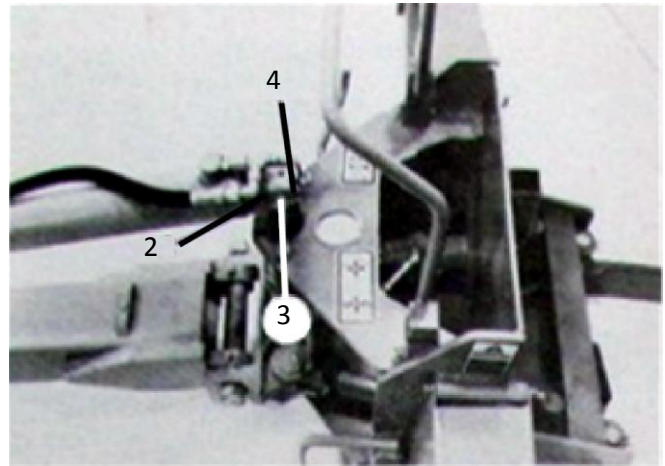

Fig. 3
(2) Mount the base end of the main boom cylinder (Item 2) with flat top end of the swing shaft between the ears on the cylinder clevis. Secure the cylinder with the 3/4" x 2 3/4" cylinder pin (Item 3) and two cotter pins (Item 4) as show in Fig. 3.